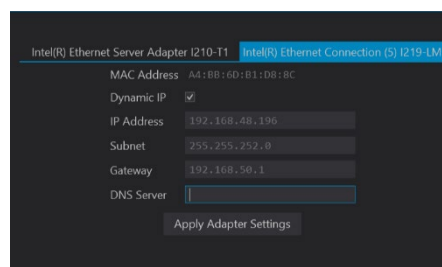

Figure 7: Ethernet Server Adapter Tab
4. Select **Ethernet Server Adapter** tab (**Figure 7**).